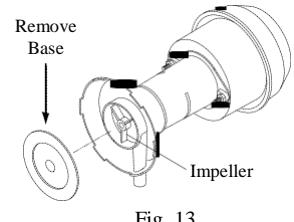

Fig. 13
- Clean pump.** Cleaning the pump is necessary once a year at start-up. For your safety, turn unit off and unplug motor and pump. Remove the pump from the mount slot. Remove the base of the pump (Fig. 13). Clean the pump and turn the impeller to ensure free operation. Remove the pump spout and check for any blockage.